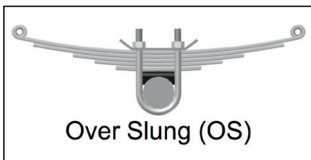

figure 1
If axles are Over Slung (OS) as shown in figure 1, ALL frame hangers need to be a minimum of 3 1/4" tall.